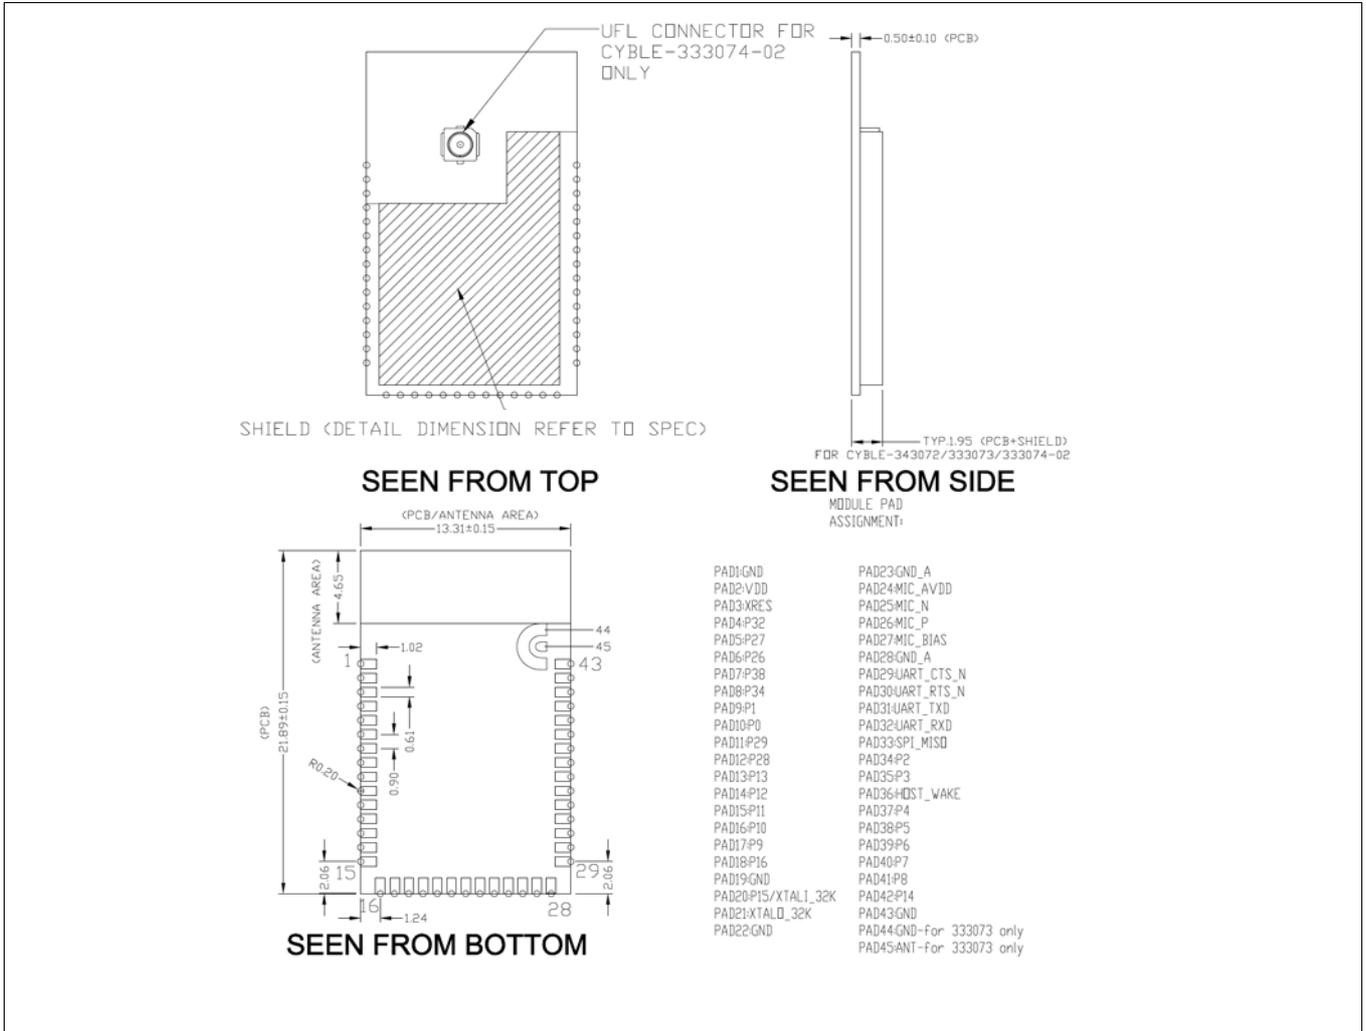
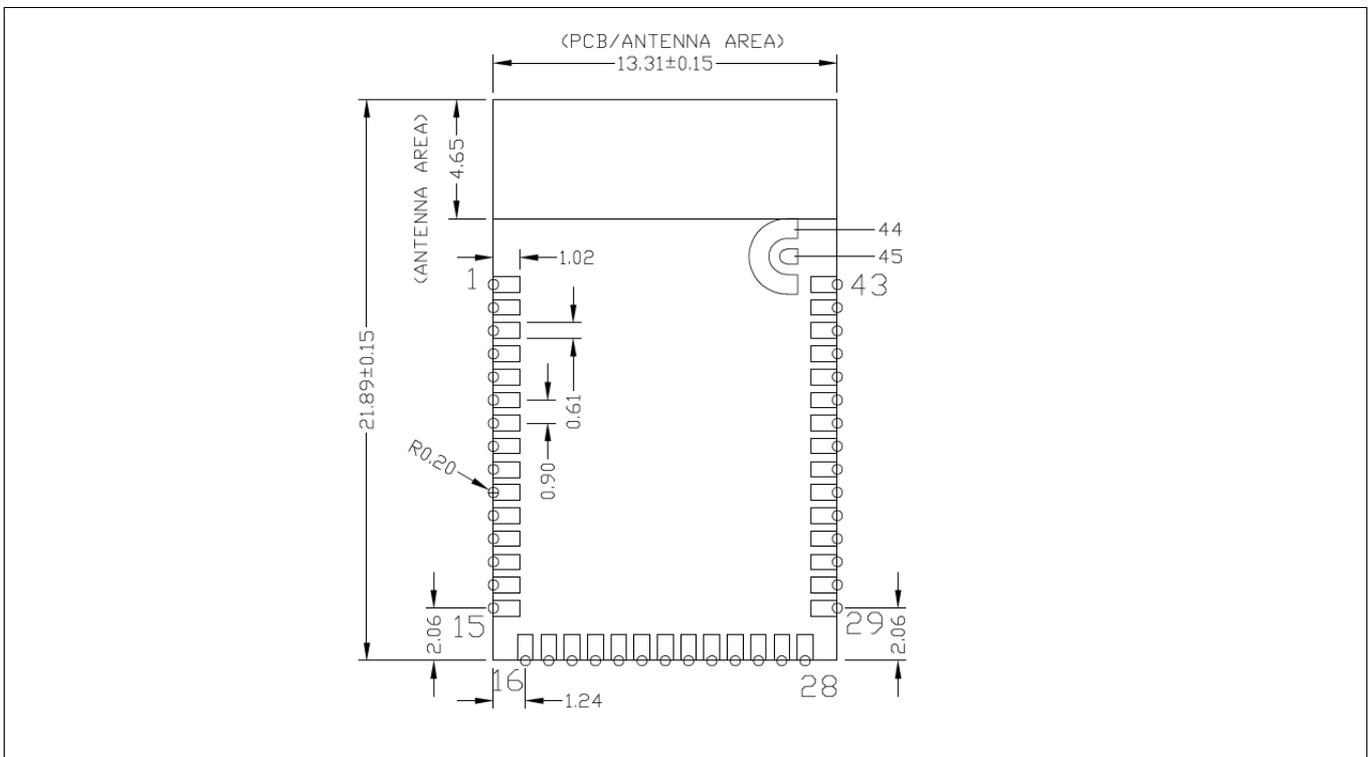

Figure 2 Module mechanical drawing
Figure 3 Solder pad dimensions (seen from bottom)
Infineon reserves the right to select components from various vendors to achieve the Bluetooth® module functionality. Such selections will still guarantee that all mechanical specifications and module certifications are maintained. Designs should be held within the physical dimensions shown in the mechanical drawings in Figure 2 on page 7. All dimensions are in millimeters (mm).
See **Figure 2** for the mechanical reference drawing for CYBLE-3x307x-02.
As shown in the bottom view of Figure 2 on page 7, the CYBLE-3x307x-02 connects to the host board via solder pads on the backside of the module. Table 2 and Figure 3 detail the solder pad length, width, and pitch dimensions of the CYBLE-3x307x-02 module.
1. **Antenna Area Keepout:** The host board directly below the antenna area of the module (see Figure 2 on page 7) must not contain ground or signal traces. This keepout area requirement applies to all layers of the host board.
2. **Module Placement:** The ideal placement of the Bluetooth® module is in a corner of the host board with the PCB trace antenna located at the far corner. This placement minimizes the additional recommended keepout area stated in item 2. Refer to AN96841 for module placement best practices.